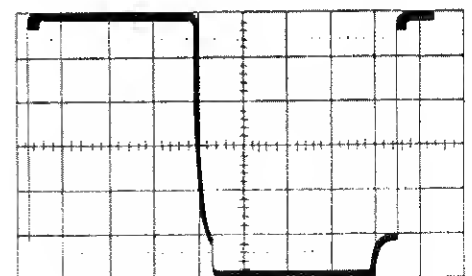

Figure 5-5. Chopper Performance
(1) When replacing the diode, the cap must be on the cathode end of the diode. The bowed washer from the original diode should be placed (concave side up) on the anode end of the diode Fig. 5-5 Diode Replacement. It is important that the diode be pressed firmly in place before tightening the socket head setscrew.
b. Fig. 5-5 shows a typical oscilloscope pattern of the chopper operation. Duty cycle is approximately 50%. Contact bounce will generally increase with use. The chopper assembly (G-1) can be readily replaced if contact bounce becomes excessive and impairs observations on the oscilloscope.